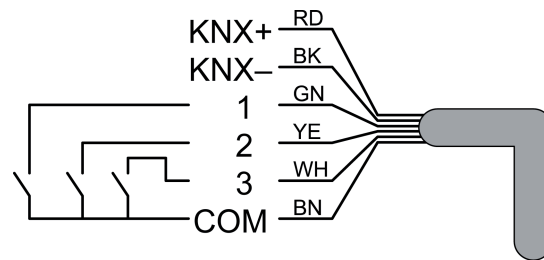

Figure 4
- If necessary, connect potential-free contacts (6) to inputs (Figure 4).